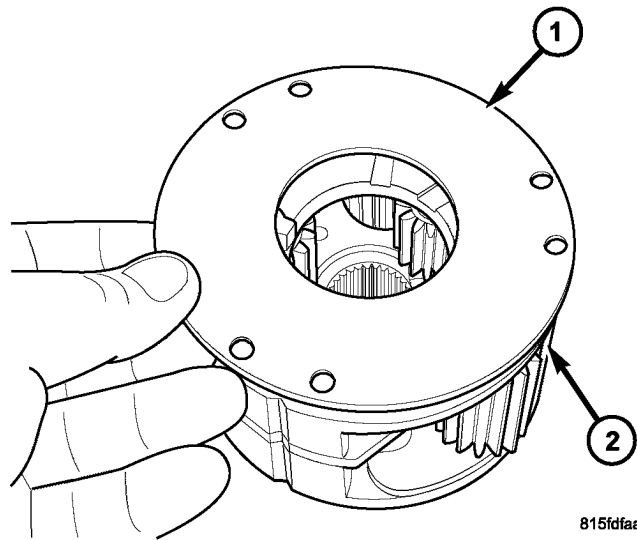

Fig. 8 REMOVE FRICTION DISC WASHER
12. Remove the friction disc washer from the planetary assembly. **Save Friction disc washer for reassembly.**(Fig. 8).